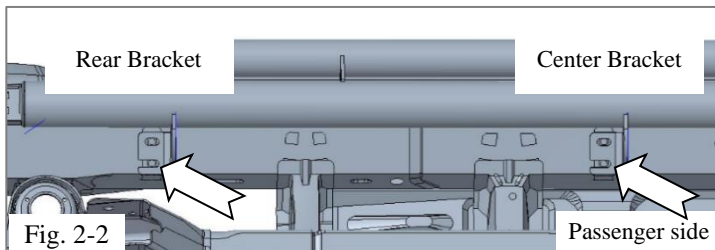

Fig. 2-2
- Hand start two M8 bolts 2-3 threads at the locations identified in Fig. 2-2.